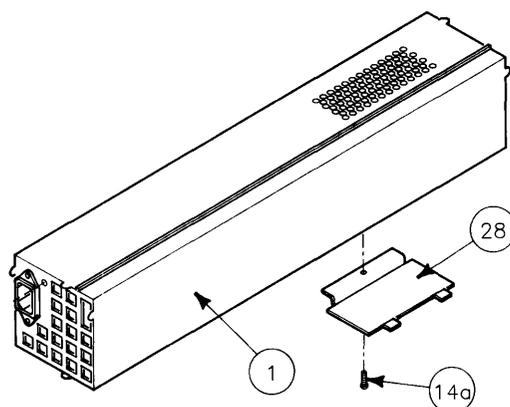

Figure 2-6. Power Supply Cover Plate
1. Remove the power supply cover plate screw (Figure 2-6).
5. Install the power supply cover plate and screw (Figure 2-6).